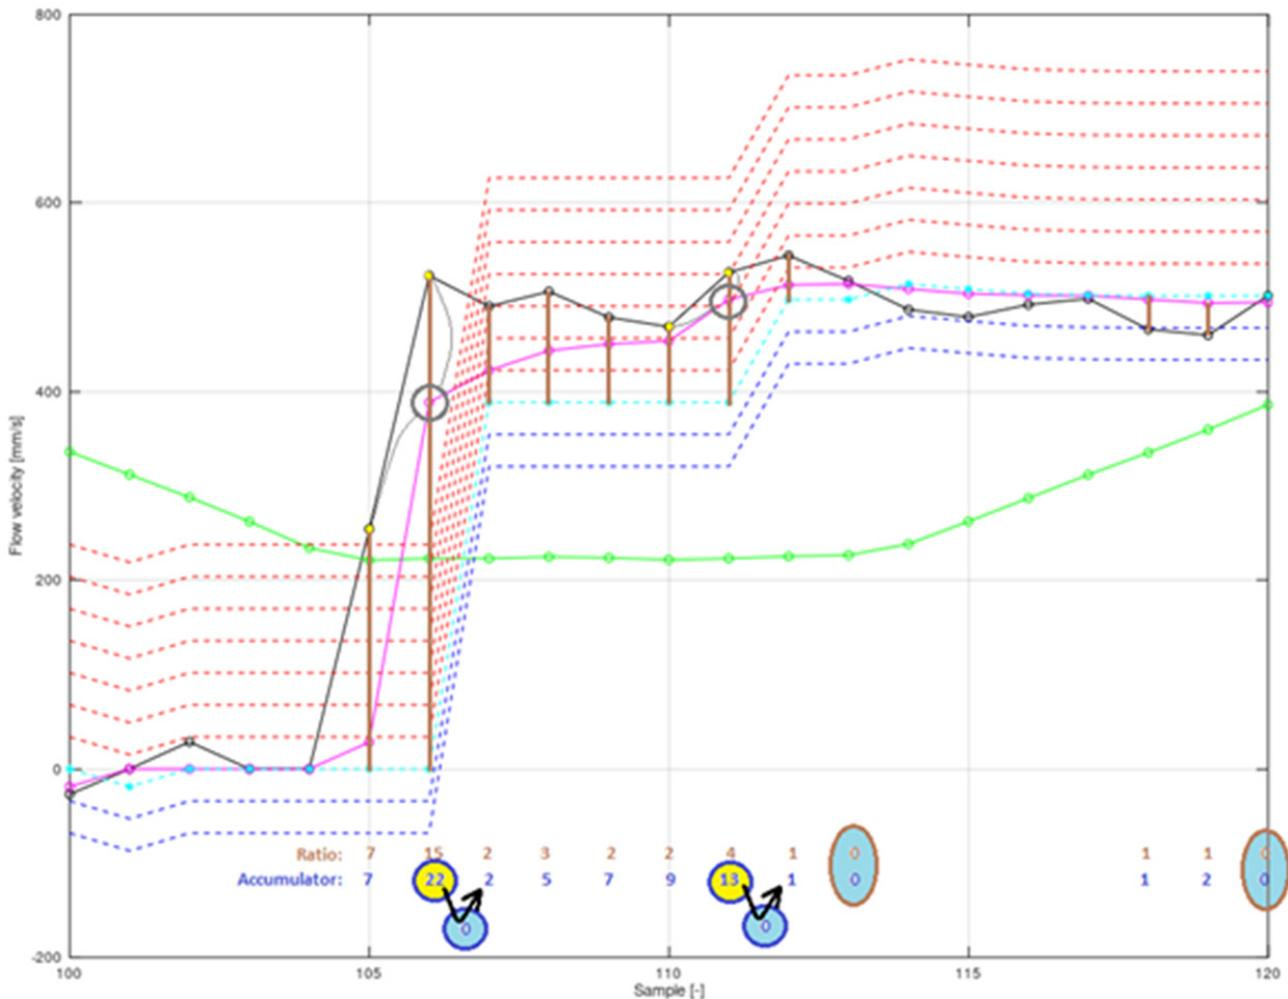

Figure 37: Graph of flow velocity processing and filtering during transition from zero to 500 mm/s
To further explain the functionality of the advanced moving average filter, see Figure 37. The legend for the graph is as follows:
In Figure 37, the standard moving average and advanced moving average filtering is demonstrated during a transition of true flow from standing water state (pump off, zero flow) to constant flow about 500 mm/s (pump on). Sampling rate was set to 15 s (recommended battery mode) and flow sensor used was DN50. The black curve shows raw measured flow velocity without filtering, the green curve corresponds to filtration by the standard moving averaging (MA) with window length 10. The magenta curve shows application of the advanced moving average filter (AMA) with moving average length 10, and acceleration factor of 10. The graph demonstrates stabilization of measured and filtered flow by the AMA. The standard MA is not suitable for such application, the transition settling is too long. The AMA settling is relatively short, about two samples, if error window length is small.